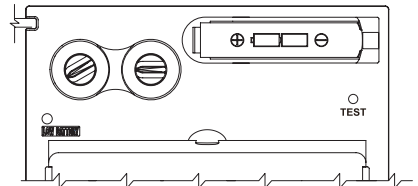

Fig. 1
- **Battery installation.** When the low battery indicator turns red, please replace the battery immediately. Press and hold test to preview shade selection before welding (See fig.1). When released then viewing window will automatically return to the light state (DIN 3.5).
- **TEST.** Press and hold test to preview shade selection before welding (See fig.1). When released then viewing window will automatically return to the light state (DIN 3.5).